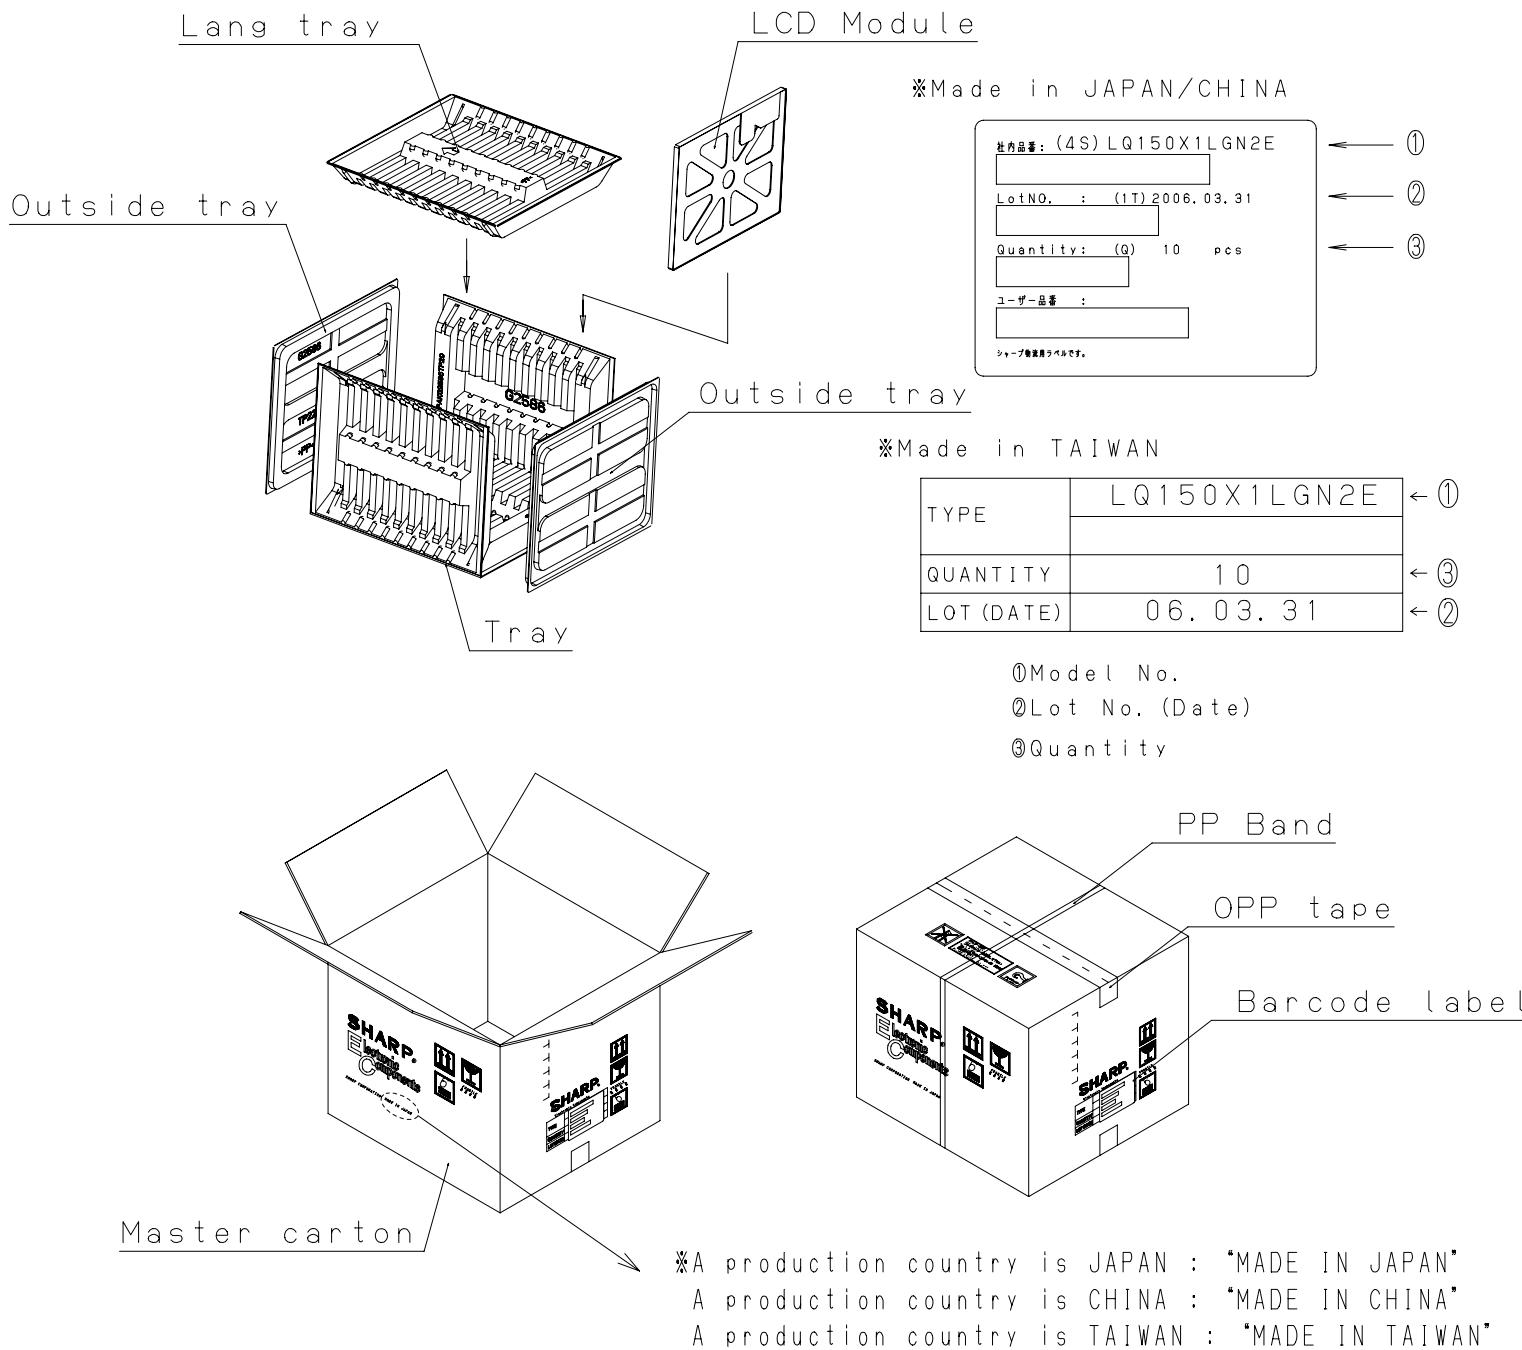

Fig. 3 Packing Form (LQ150X1LGN2E)
- f) Packing form is shown in Fig.3